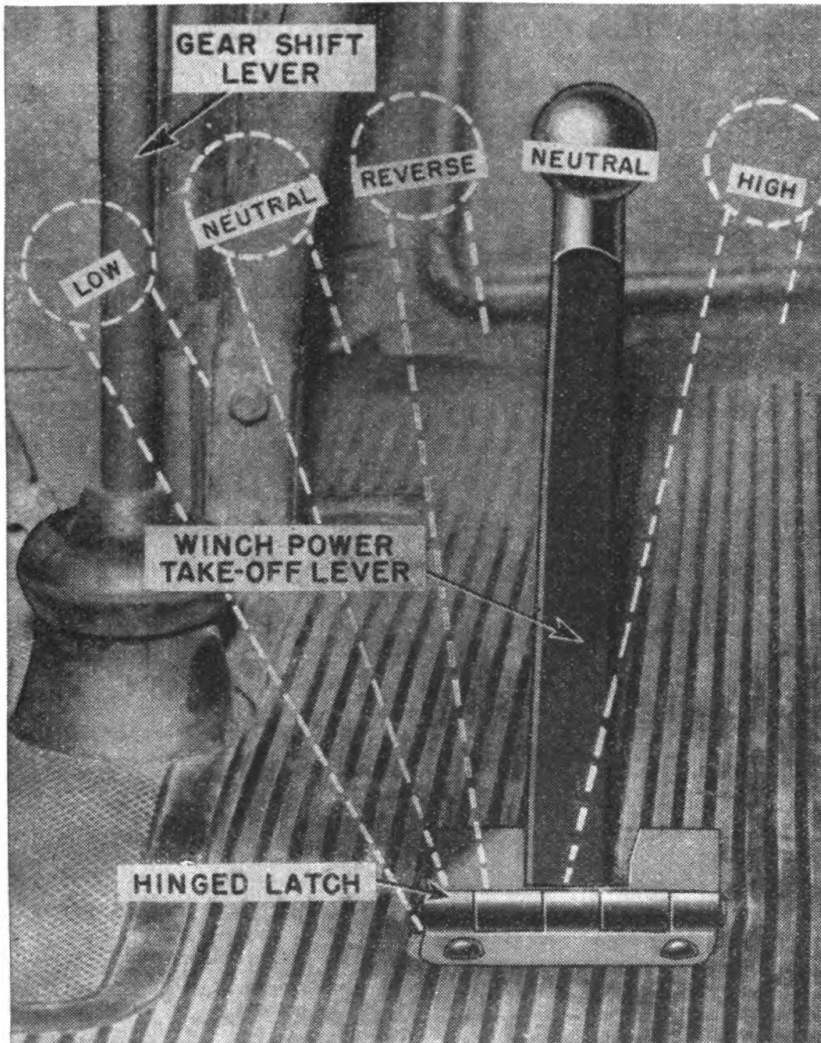

FIGURE 36.—Winch power take-off lever in cab.
*a. Power take-off unit.*—Power for operation of the winch is transmitted from the main transmission through a power take-off unit bolted to the transmission. In the case of the winch, the power take-off unit fulfills a function similar to that of the transmission gears in the case of the power train. Shifting is controlled by a power take-off unit gear shift lever located in the cab. (See fig. 36.)
*b. Winch gears.*—The power take-off unit has two gear ratios for lifting or pulling (winding), and one gear ratio for lowering (unwinding). There are two neutral positions, one between low and reverse, and the other between reverse and high. (See fig. 36.) From the power take-off unit, power is transmitted to the front of the vehicle by a propeller shaft.